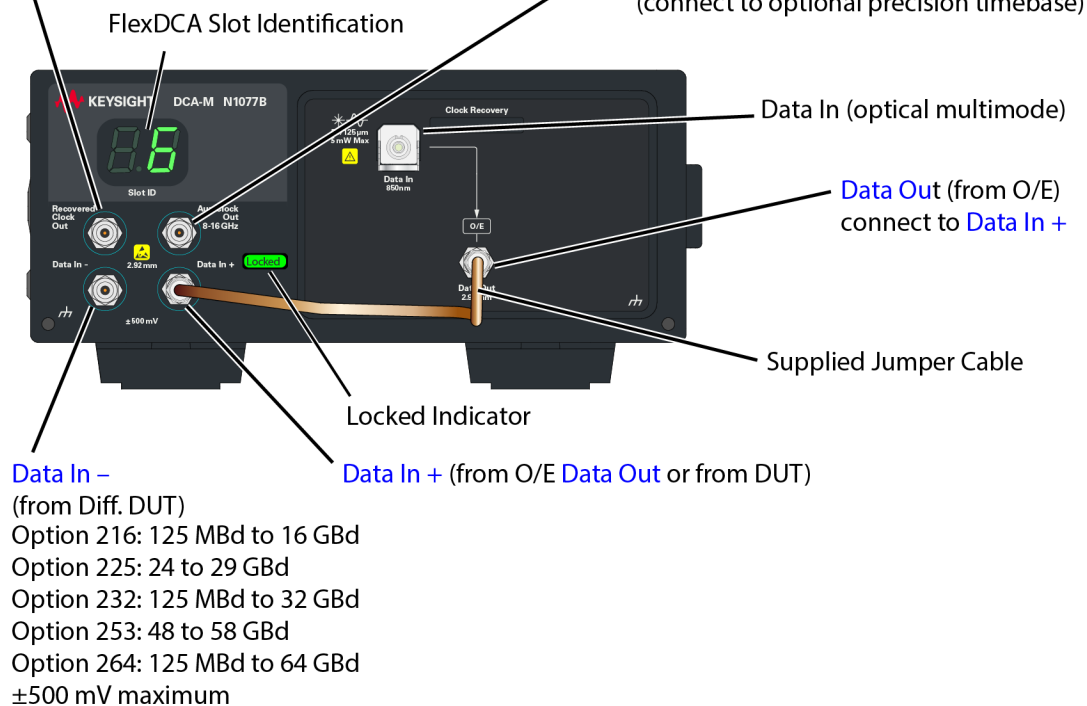
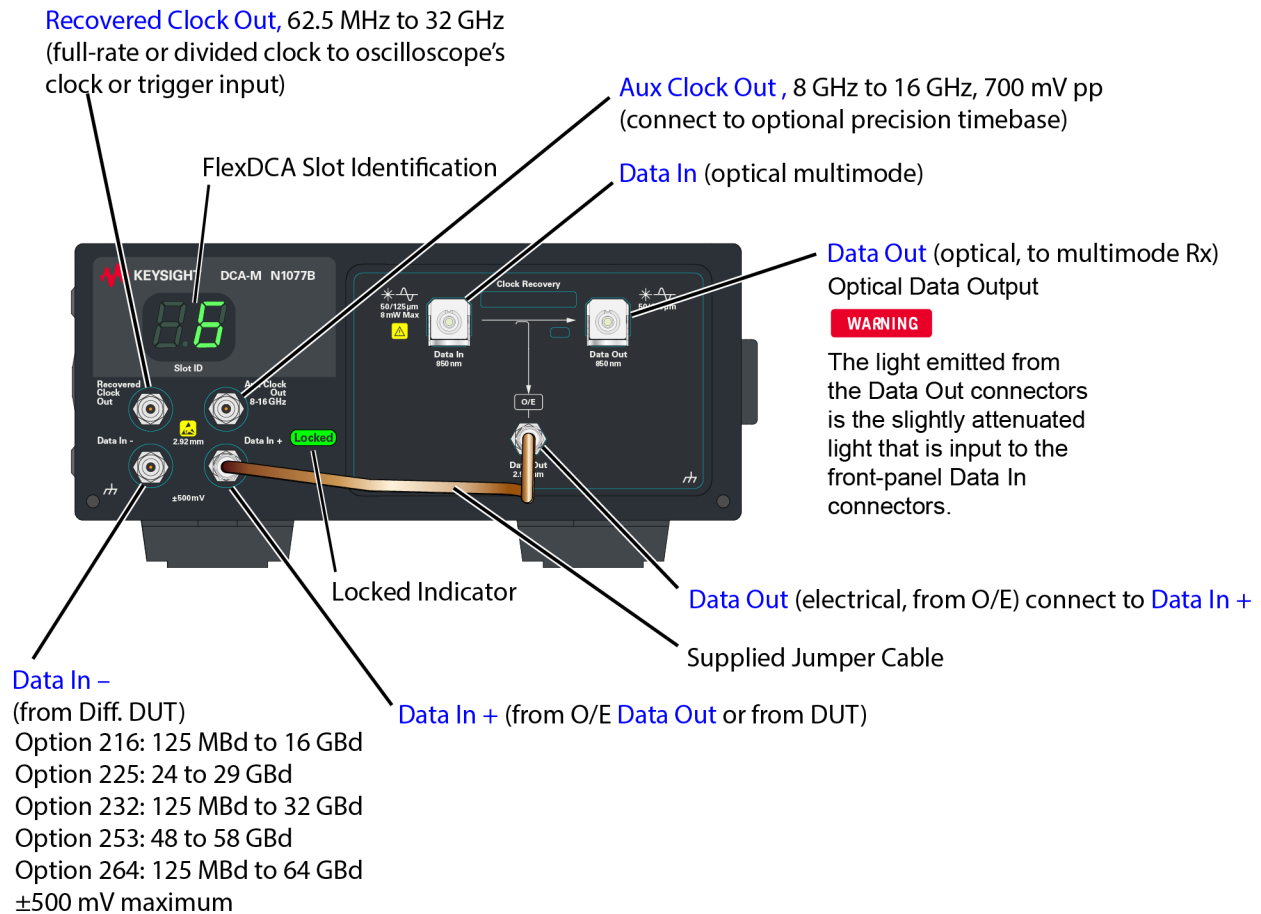

Figure 44. N1077B-SXT Front-Panel Connectors
Figure 45. N1077B-SMM Front-Panel Connectors
Figure 44 on page 90 and *Figure 45 on page 91* show the N1077B-SXT and N1077B-SMM module front-panels. Both model options have multimode/single-mode optical connectors. Option SXT modules do not have an internal optical splitter. Option SMM models include an internal optical splitter (50%). The optical internal splitter provides a slightly attenuated input signal at the optical **Data Out** connectors. This output can be used for input to a receiver module or other test equipment.
1. Confirm that the input signal meets the baud rate and amplitude requirements shown in *Figure 44 on page 90* and *Figure 45 on page 91*. In this procedure, the following assumptions are made for simplicity. You can change these parameters to any acceptable values.